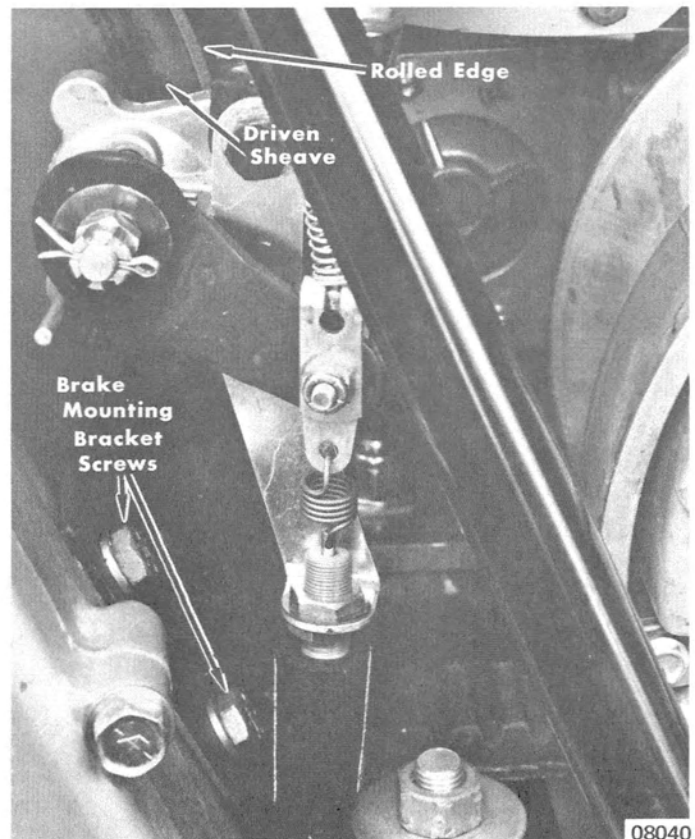

Figure 8. Brake Mount
1. Loosen brake mounting bracket screws. (Figure 8)
2. Adjust mounting bracket so that brake disc contacts flat surface of driven sheave and not rolled edge. (Figure 8)